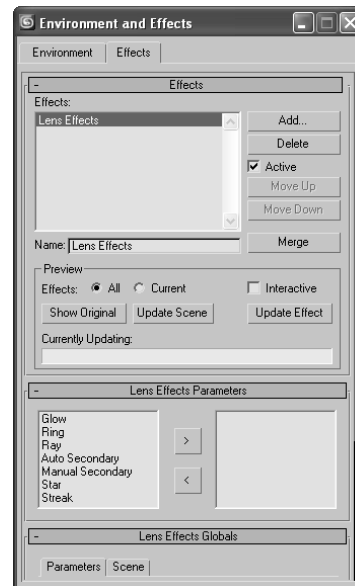

Figure 11.25
4. In the Menu Bar, choose `Rendering → Effects` to open the Environment and Effects window. Click the Add button. Then pick Lens Effects from the Add Effect dialog box. Figure 11.25 shows that the Lens Effects have been added.